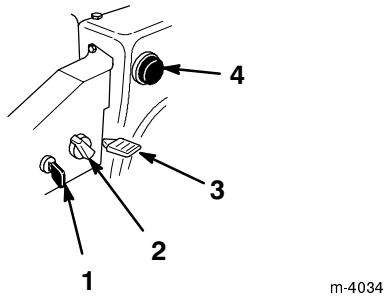

Figure 14
- **Ignition Switch** (Fig. 14)—Insert the key before starting the engine with the recoil starter. To stop the engine, remove the key.
- **Choke** (Fig. 14)—Rotate the choke to the *Full* choke position to start a cold engine. As engine warms up, move choke gradually to the *Off* position.
- **Throttle** (Fig. 14)—Move the throttle upward to increase engine speed and downward to decrease engine speed.
- **Primer** (Fig. 14)—Press the primer to pump a small amount of gasoline into the engine to improve cold-weather starting.
2. Remove the key from the ignition switch (Fig. 14).
3. Pull the choke knob off (Fig. 14).
1. Move the speed shift control to the *N (Neutral)* position and the throttle (Fig. 14) to the *Fast* position.
4. Rotate the choke (Fig. 14) to the *Full* position.
5. Insert the ignition key (Fig. 14).
6. Cover the hole in the center of the primer (Fig. 14) with your thumb and slowly push in the primer three times, pausing between each push.
9. After the engine starts, immediately rotate the choke (Fig. 14) to the *3/4* position. As the engine warms up, rotate the choke to the *1/2* position. When the engine warms up sufficiently, rotate the choke to the *Off* position.